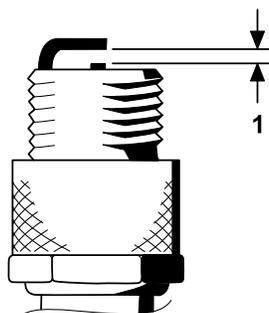

Figure 34
- Set the air gap between the center and side of the electrodes at 0.76 mm (0.030 inches) as shown in Figure 34.